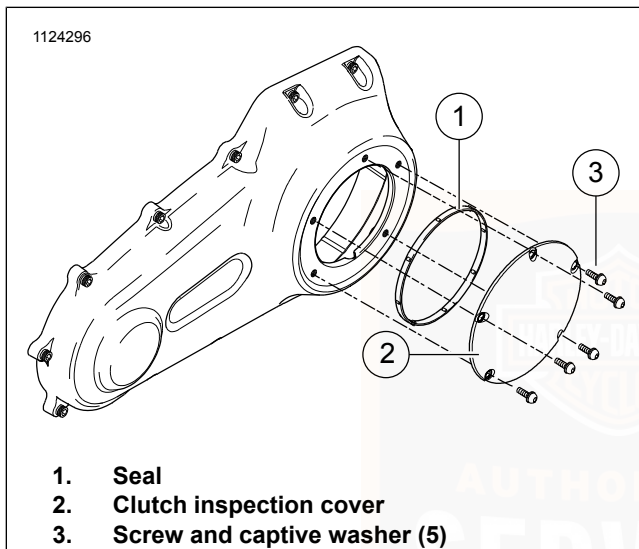
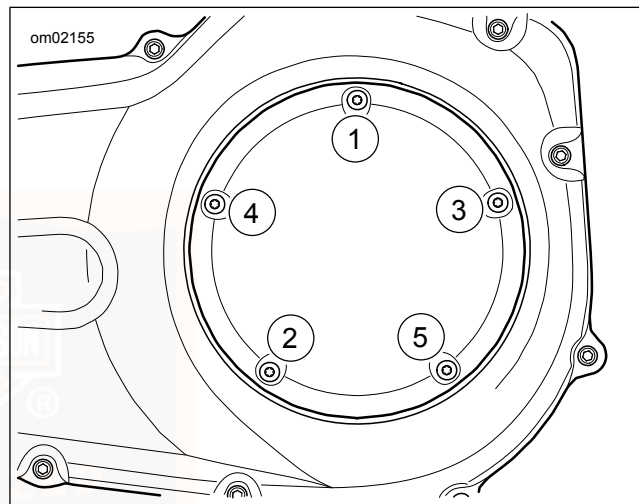

Figure 92. Clutch Cover (Typical)
Figure 93. Clutch Cover Tightening Sequence
6. See Figure 92. Remove screws (3) and clutch inspection cover (2).
7. Remove seal (1). Wipe oil from groove in chaincase cover and mounting surface.
- b. See Figure 92. Position **new** seal (1) in groove in clutch inspection cover (2). Press each of the nubs on seal into the groove.
- c. Secure clutch inspection cover (2) with screws with captive washers (3).
- d. See Figure 93. Tighten in sequence shown to 84–108 **in-lbs** (9.5–12.2 N·m).